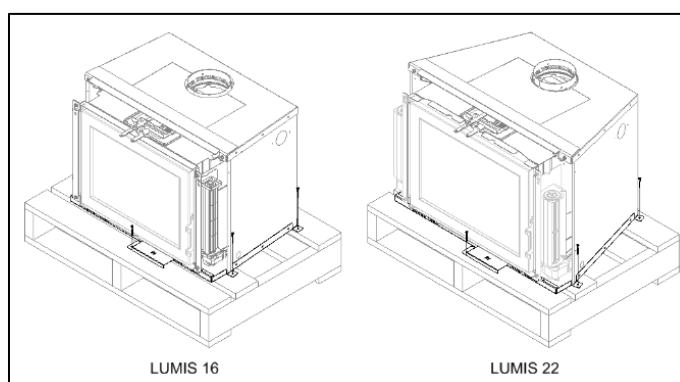

Figure 3-4: LUMIS Removal from Pallet
- b) Unfasten the wiring cover and the sides of the unit from the pallet (See Figure 3-4).